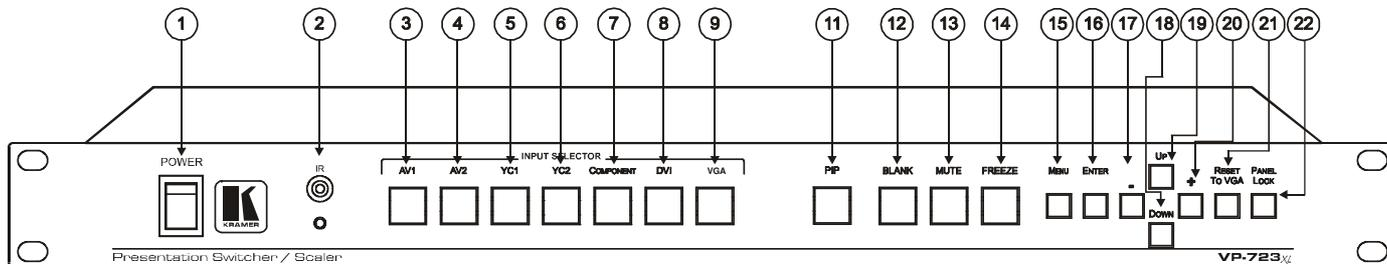
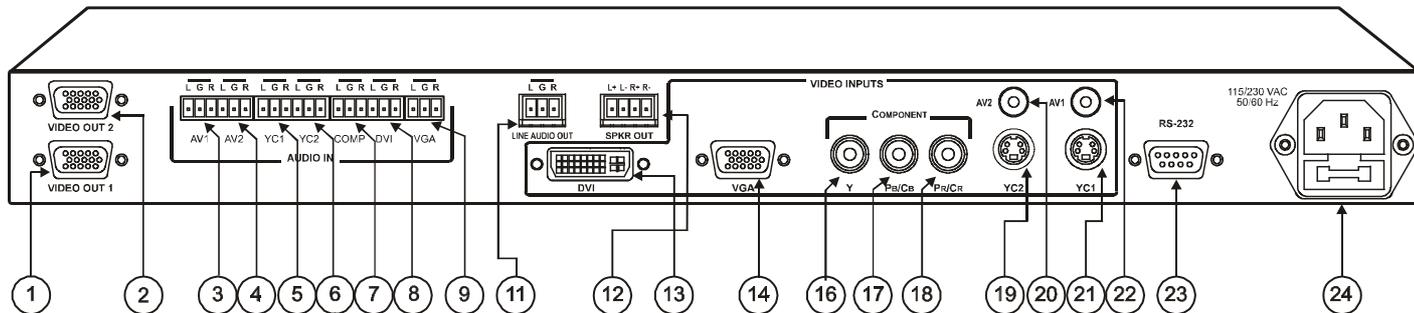

Figure 5: VP-723xl Presentation Switcher / Scaler Front Panel1
Figure 6: VP-723xl Presentation Switcher / Scaler Rear Panel2
- Figure 5 and Figure 6 illustrate the **VP-723xl** *Presentation Switcher / Scaler*